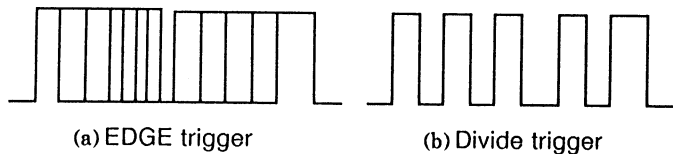

Fig. 6-4
- ③ Setting procedure (MODE, SOURCE, SLOPE, COUPLING, LEVEL, PUSH 50%) of the divided trigger function is the same as that of item 6.5.1 Edge trigger function. Fig. 6-4 illustrates an example of waveform observation with